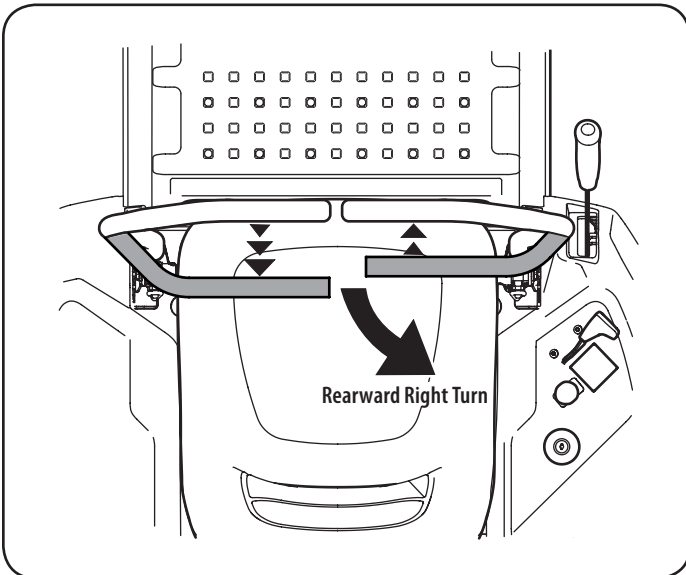

Figure 15
- To turn to the right while traveling in reverse, move the right drive control lever forward of the left lever. See "Figure 15".